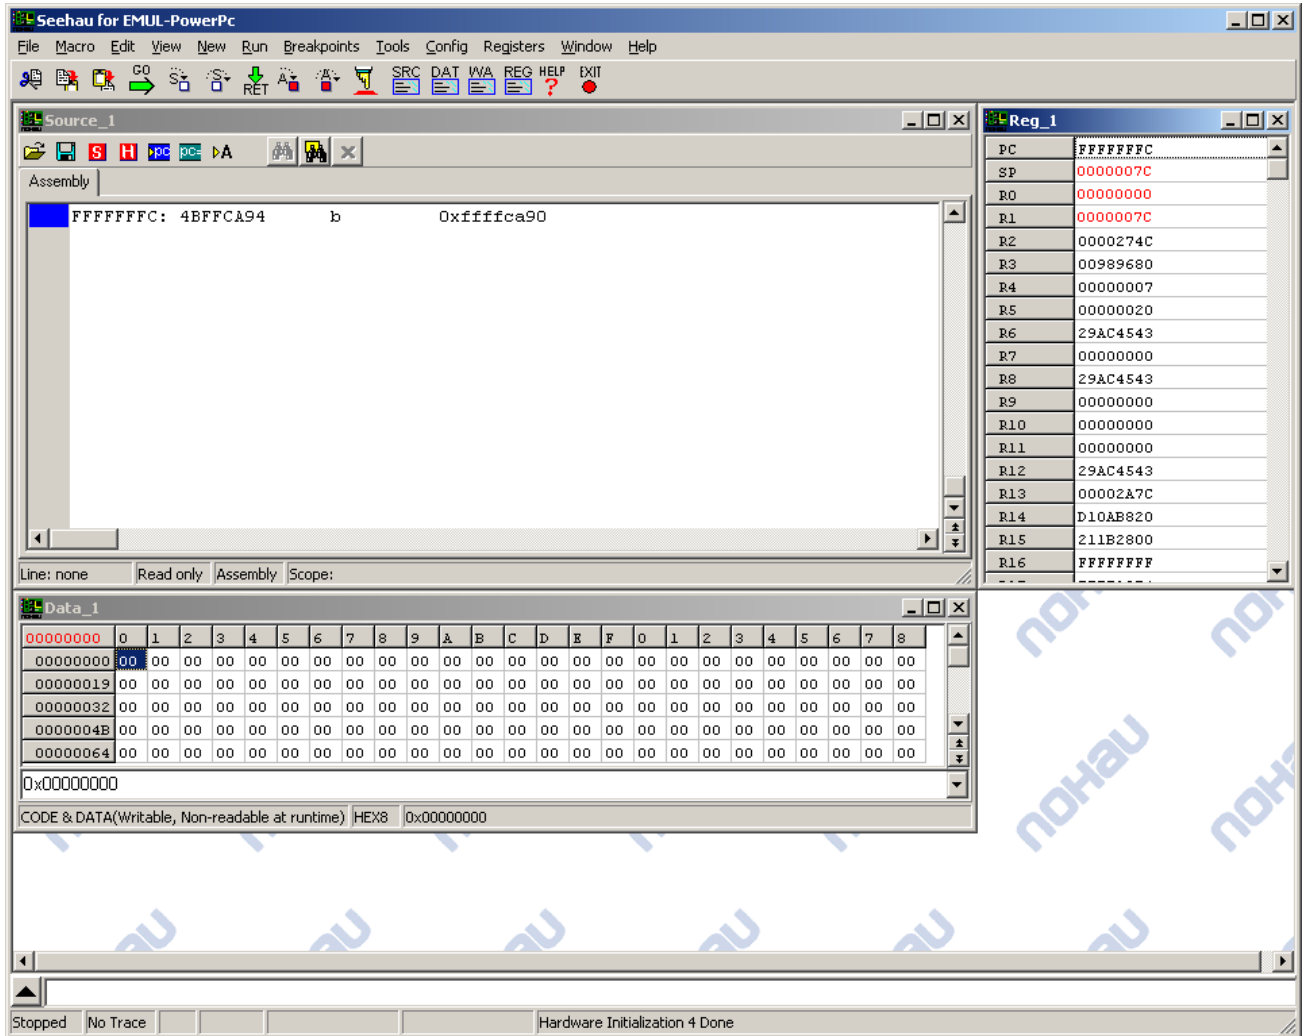

Figure 9. SeeHau for EMUL-PowerPC
1. Double-click the Demo icon. The Seehau main window opens (Figure 9). Seehau will load its configuration from the Startup.bas file. Notice that the word macro is displayed in red at the bottom of the main window while Startup.bas is running.
1. Double-click the **SeehauPPC** icon. The Seehau main window opens (Figure 9). Seehau will load its configuration from the Startup.bas file. Notice that the word macro is displayed in red at the bottom of the main window while Startup.bas is running.